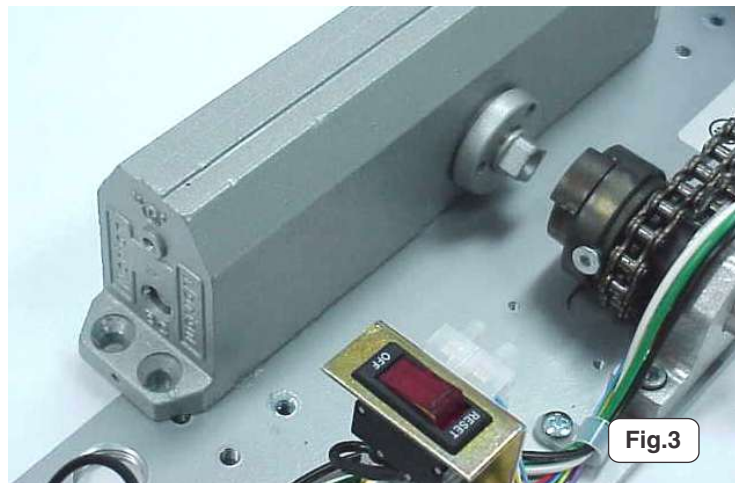

Fig.3
4. Orient the closer body as shown in fig. 3, with "BC" valve toward conduit holes, and slide onto backplate so that closer pinion is inserted into pinion extension. Some rotational adjustment of the pinion extension may be required to allow assembly of closer pinion and pinion extension.